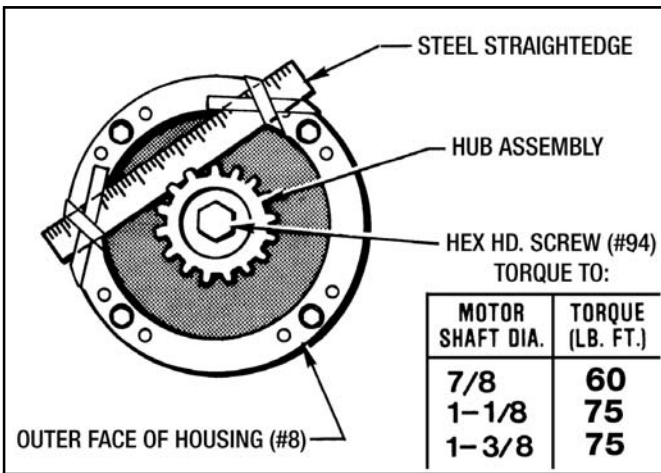

Figure 3.2 - Collet Bolt Torque
2. Tap the hub lightly to align the proper shoulder of the hub with the housing face (straightedge). This alignment should be within plus or minus 1/64" (See *Figure 3.2* on the next page).
3. After the hub has been properly positioned retain it from turning and tighten Hex Hd. Cap Screw (#94) (See *Figure 3.2*) for proper torque reading.